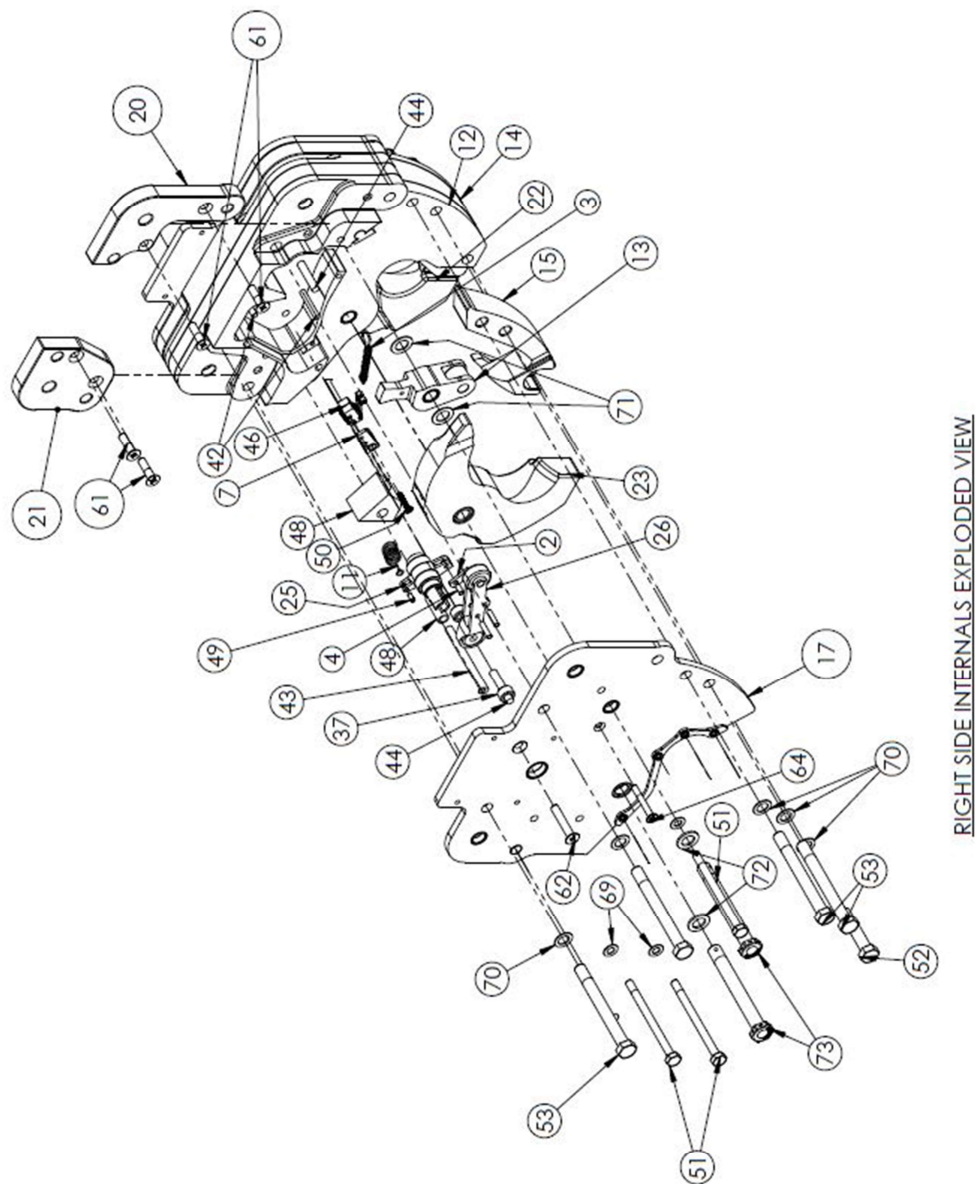

Figure 4.11: Hook Right Side Internals Exploded View
NOTE: Callouts for parts are the same as Right Side (Figure 4.11)
- Utilize pin removal tools to disconnect the electrical wire leads from the terminal block shown in the wire schematic on Figure 4.11.
- Disassemble RH internals (Figure 4.11)
- Note that the hook bolt heads will be on the right hand side of the assembly. If removed without utilizing a pin or bolt from the left side of the system, the RH internals will not be retained in their position found in Figure 4.11.
- Check Side Plate Assemblies (items 15 & 16)